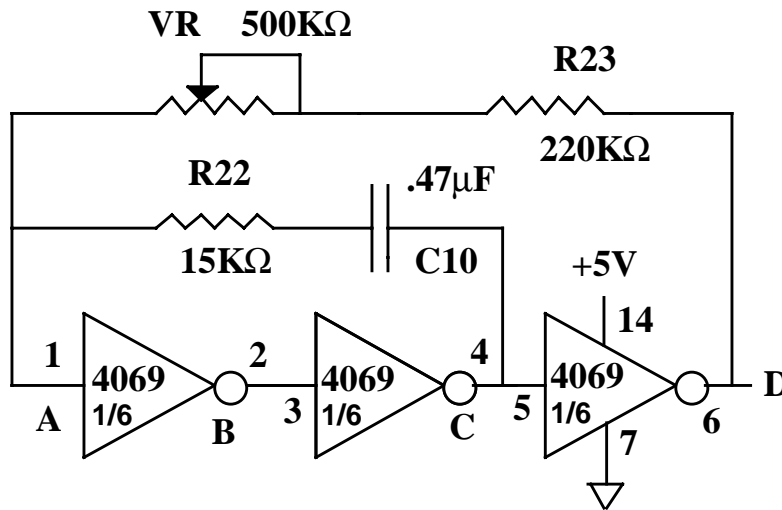
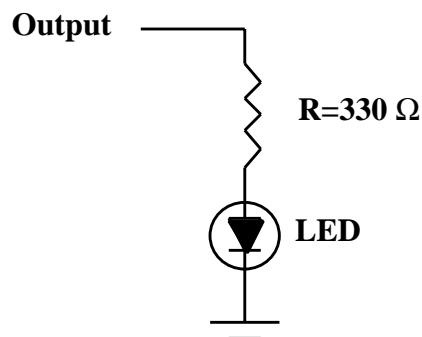

Figure 8.6 A circuit for generating continuous oscillations (a “clock” circuit) constructed using 3 inverters, resistors, and a capacitor.
Figure 8.9 Using an LED to construct a digital signal indicator.
As we will see, many digital circuits require a “clock” signal. That is, a periodic square wave at a controlled frequency. Therefore, the final resistor, capacitor, and inverter circuit that we will consider is the free running oscillator shown in Fig. 8.6. Note, in this circuit
4. Now, build the clock circuit shown in Fig. 8.6 on the protoboard. To see that it works, light an LED with the output as shown in Fig. 8.9. Note, you may use a 1K resistor in place of the 330 Ω resistor shown in Fig. 8.9. A working circuit will make the LED flash. Note how you can vary the flashing frequency by varying the potentiometer.